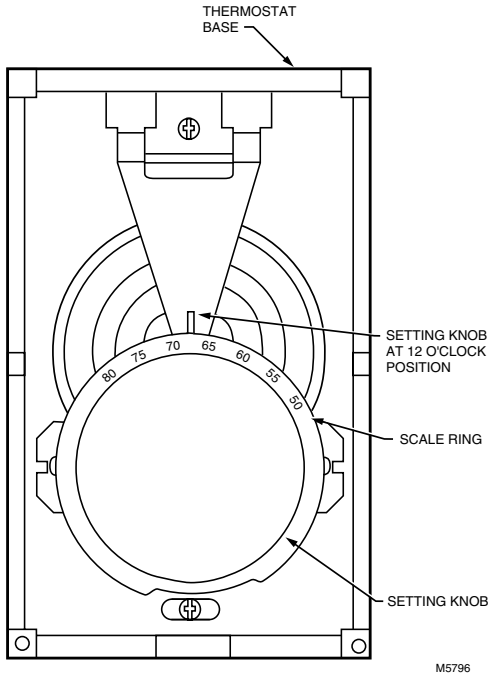

Fig. 5. Calibrating thermostat.
- 3 Firmly hold the setting dial with one hand. Using the other hand, turn the outer scale ring counterclockwise until the 12 o'clock position of the scale ring is the same temperature as the cover thermometer. See Fig. 5.